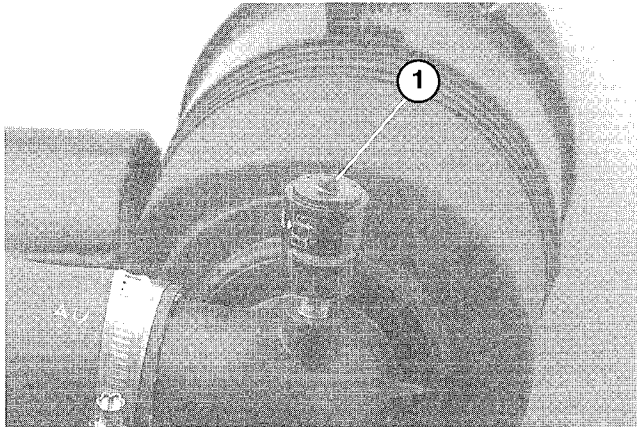

Figure 40
2. Service the air cleaner filters when ever air cleaner indicator (Fig. 40) shows red or every 400 hours (more frequently in extreme dusty or dirty conditions). Do not over service air filter.
8. Reset indicator (Fig. 40) if showing red.